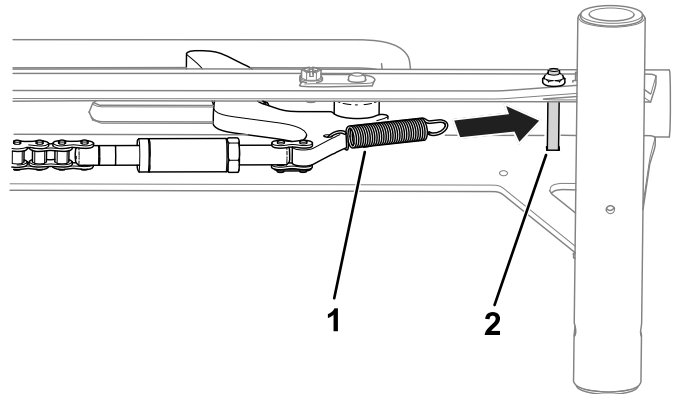

**Figure 4**
6. Use a chain link to install the chain-link turnbuckle to the wheel stop (Figure 4).